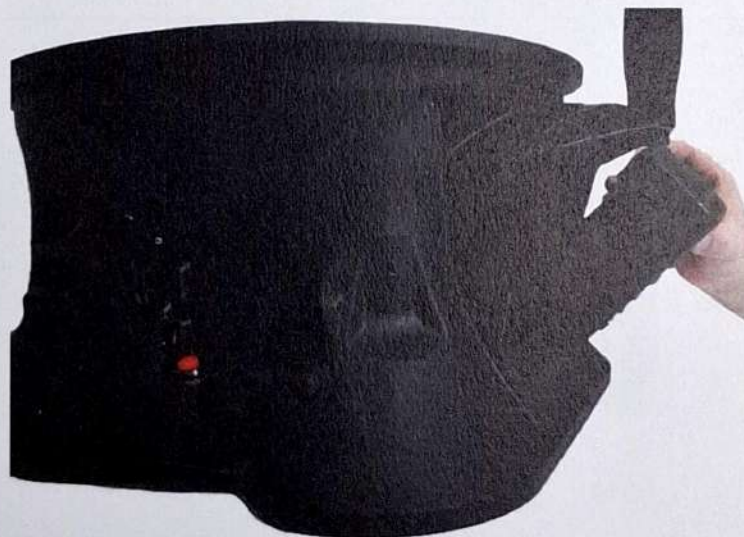

Figure 10: Attaching the Meter to the Capture Hood Base
1. Tilt the meter forward and align the tabs in the base of the meter with the two matching slots in the bottom of the recessed area at the front of the base (see Figure 10).